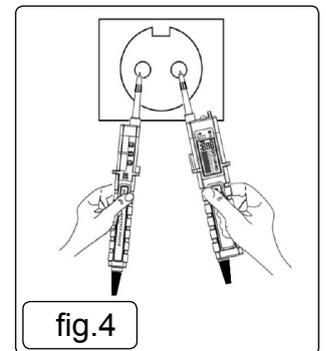

fig.4
- 5.2.1. Connecting two probes to two ports of the voltage source (fig.4).
- 5.3.2. Connecting two probes to two ports of the voltage source (fig.4).